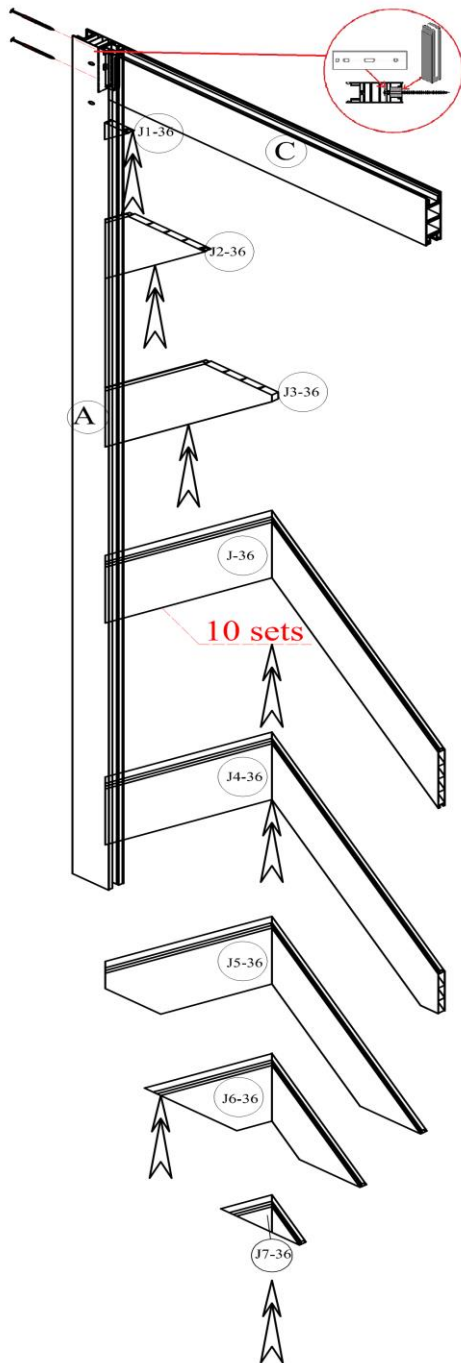

Figure 6A
Continue the same process in sequence with 10 sets of J-36 panel, then 1 set of J4-36 panel and then 1 set of J5-36 panel. Upward the sharp head of these door-panel sets in order to join every panel set in right direction. Also, the left open edge of each door-panel set shall slide into the Stile (A). Again, make sure that all the door panels join each other firmly. Tap into place if necessary. The next step is applying the two bottom door-panel sets which are set of J6-36 panel and J7-36 panel. Insert the tongue of J6-36 panel set into the groove of J5-36 panel set and make sure they join firmly. Tap into place if necessary. Continue with applying J7-36 panel set into J6-36 panel set. Make sure the two panel sets fit each other and Stile (A) tightly. Tap into place if necessary. See **Figure 6A**.